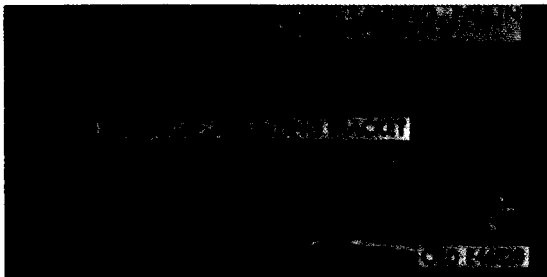
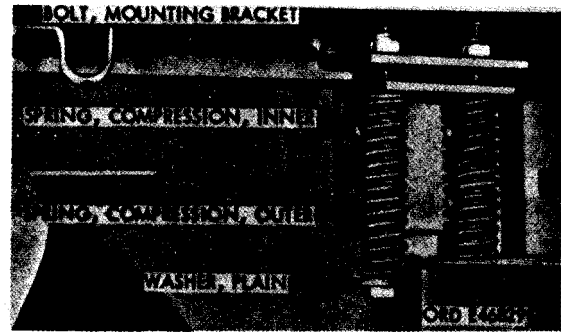

Figure 58. Cargo body mounting - intermediate
Figure 59. Cargo body mounting - front
- (1) Untie all paulin lashing ropes from paulin lashing rope hooks (fig. 58). Make first fold of top paulin on each side lengthwise until lower edge of paulin is even with roll-up strap buckles. Make second fold lengthwise on both sides until both folds meet. Bring one folded side over the other fold. At each end, make another equal end fold until folded paulin is supported only on one of the intermediate bow assemblies. Remove folded paulin.
- (2) Untie paulin front and rear curtain lashing ropes. Unwind lashing ropes from end bow assemblies and remove curtains.
- (3) Remove six bow assemblies, consisting of a bow top, bow corner, and bow stake, by lifting bows straight up until end clears tubes in side rack assemblies.
d. Remove Body. Remove four nuts from mounting bracket bolts, two on each side, and remove bolts, washers, and inner and outer compression springs (fig. 59). Remove six nuts from mounting bracket cap screws (fig. 58), three on each side, and remove screws from side mounting brackets. Lift body assembly from chassis.
h. Body. Lower body to chassis and align holes in mounting brackets. Install mounting bracket cap screws (fig. 58), three on each side, and install nuts. Install plain washers, inner and outer compression springs to mounting bracket bolts, two on each side, through mounting brackets and install safety nuts to each bolt.